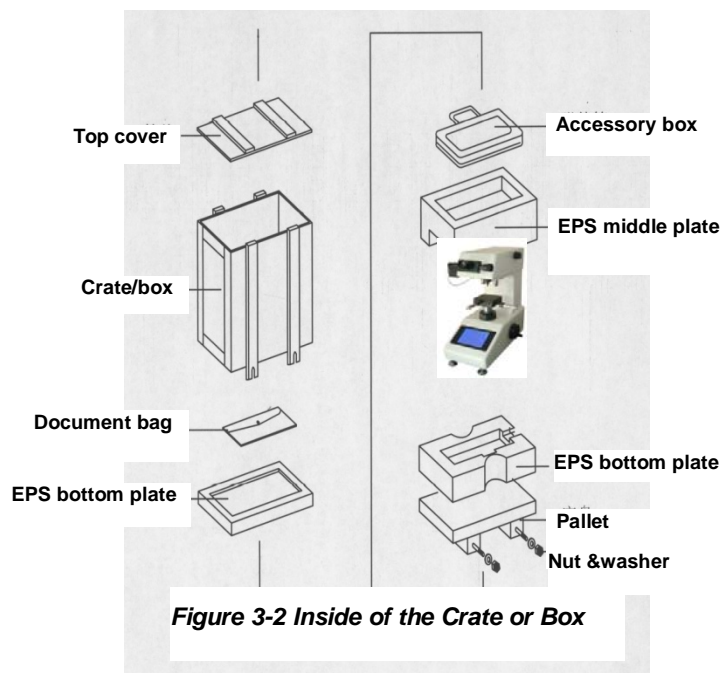

Figure 3-2 Inside of the Crate or Box
3. Take out the document bag. Open the document bag and read INSTALLATION chapter in this Operating Instruction carefully to understand steps of unpacking. Refer to Figure 3-2 to see the inside of the crate or box.